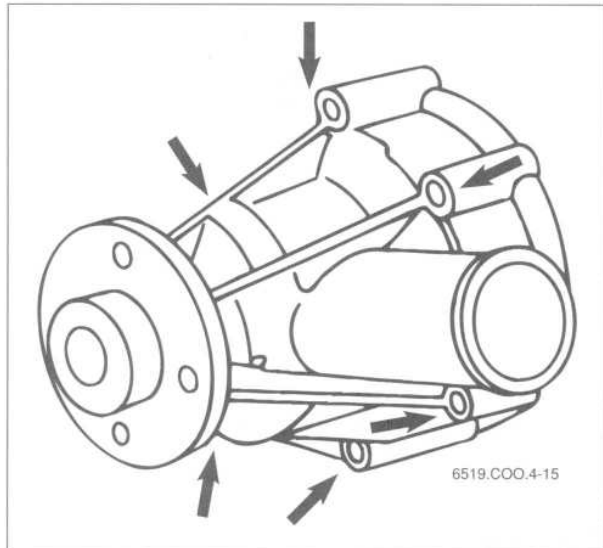

Fig. 11. M30 engine coolant pump. Mounting bolts shown at arrows.
7. Remove six coolant pump mounting bolts and remove pump. See Fig. 11.